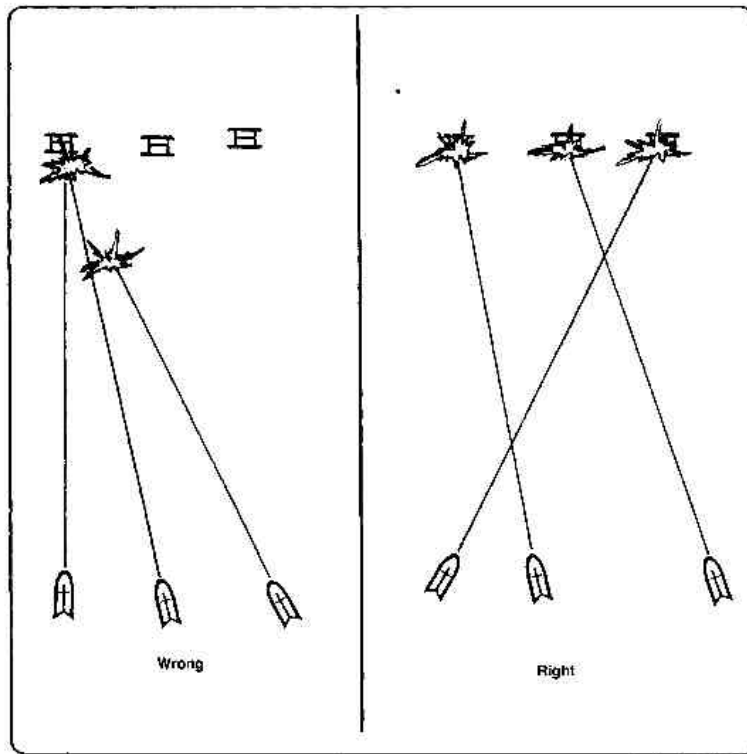

Figure 3-22. Fire distribution.
a. Fire Control Methods. To exploit the capability to concentrate Dragon fire from widely dispersed firing positions and to overcome possible difficulties caused by a limited communications capability, effective fire control methods must be practiced when employing a Dragon. (See Figure 3-22.) Effective fire control methods prevent the wasteful firing of more than one Dragon missile at the same target and prevent premature firings. These fires might unnecessarily disclose the location of the defensive positions. The primary control methods used to control the fire of one or more Dragons are sectors of fire, TRPs, engagement priorities, fire patterns, and fire commands.